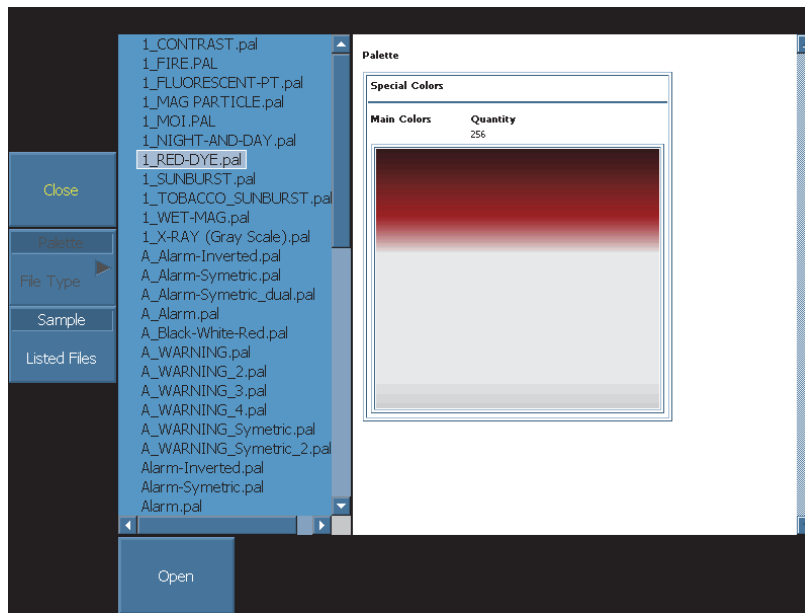

Figure 13-38 Selecting the **1_RED-DYE.pal** color palette
1. If necessary, load the **1_RED-DYE.pal** color palette, which is the default palette (patent rights protection by, but not limited to, the following: US D668,564; 13/967,690; CN201130084342.30). Select **Displays > Color > Load Palette** (see Figure 13-38 on page 289).